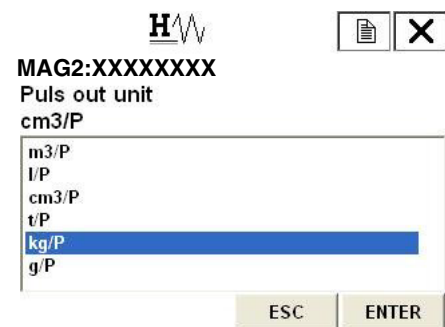

Figure 88.
- Figure 88 is then displayed.
2. Once the display as shown in Figure 88 appears, move the arrow key up or down to select pulse scale unit. After making a selection, press F4 (ENTER). If F3 (ESC) is pressed here, the selection is canceled and the display returns to the Pulse output menu.